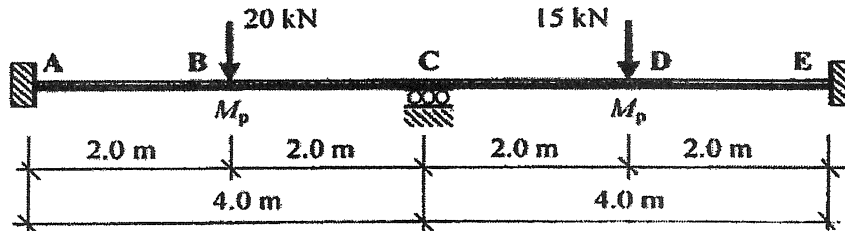

Fig.7
9. Determine the collapse load for the beam as shown in the figure 7